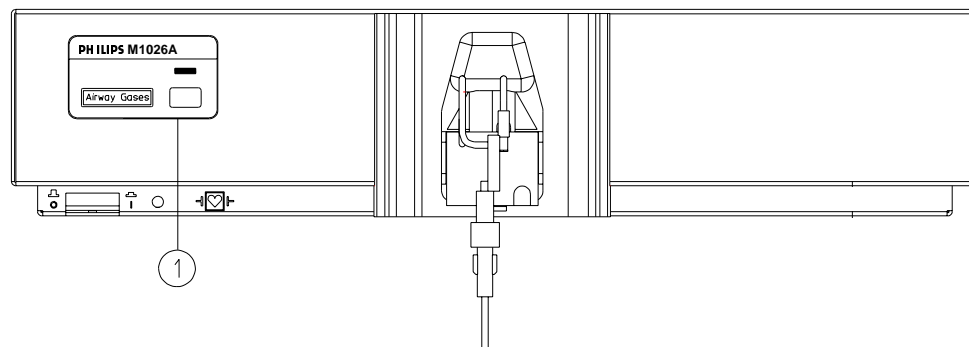

Figure 35 Label for the Philips M1026A Anesthetic Gas Module
There is a label sheet included with the Philips M1026A Anesthetic Gas Module which has the translated versions for “Airway Gases”. You can stick a translated version over “Airway Gases” on the left of the front panel. See (1) in Figure 35.